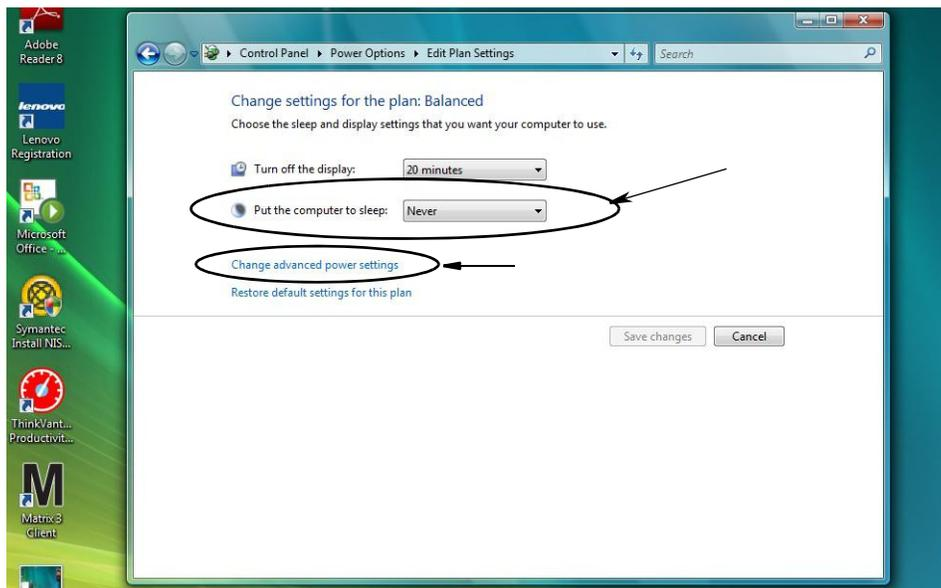

FIG. 19
4. Change the “Put the Computer to Sleep” field to NEVER. Then select the “Change Advanced Power Settings” (FIG. 19).